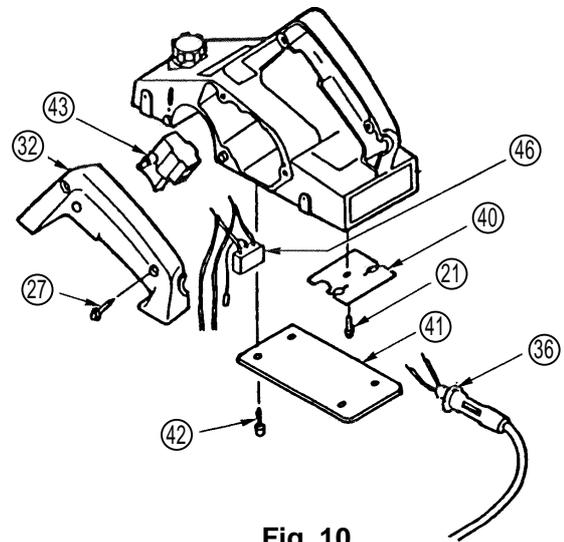

Fig. 10
(5) Removal of the Switch, Cord and Noise Suppressor: (Fig. 10)
- Loosen the two D4 x 20 Tapping Screws ②⑦ which fix the Handle Cover ③②, and take off the Handle Cover.
- Loosen the four D4 x 16 Flat Hd. Tapping Screws ④②, and remove the Rear Base ④①.
- Loosen the D4 x 12 Tapping Screw ②① which fixes the Plate ④④, and take off the Plate.
- On completion of the above, the Switch ④③, Cord ③⑥ and Noise Suppressor ④⑥ (where applicable) can be disassembled.